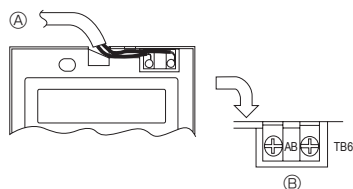

Fig. 6-9
- ① Wall
- ② Conduit
- ③ Lock nut
- ④ Bushing
- ⑤ Switch box
- ⑥ Remote controller cord
- ⑦ Seal with putty
- ⑧ Wood screw
2) Connecting procedures (Fig. 6-9)
① Connect the remote controller cord to the terminal block.
- ② To TB5 on the indoor unit
- ③ TB6 (No polarity)